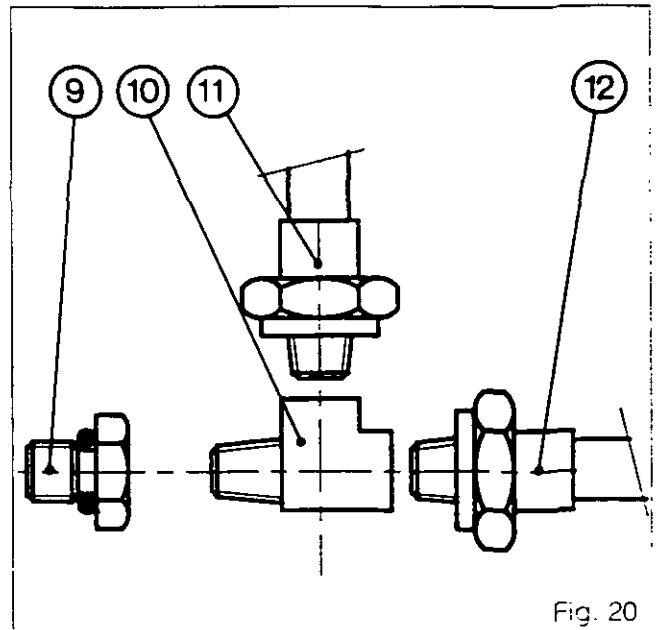

Fig. 20
**For tractors without Autotronic or with Autotronic and super-creeper, fit the switches as shown in Fig. 20.**